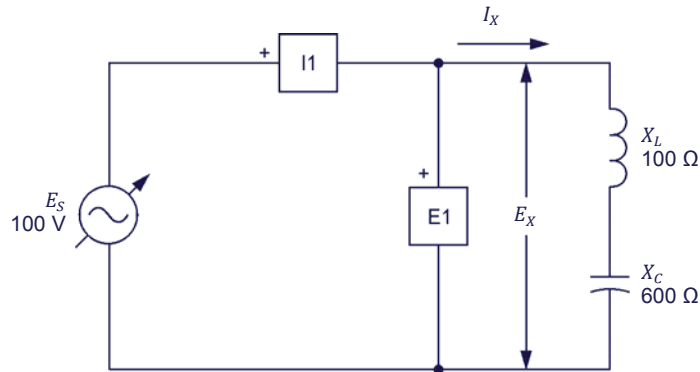

Figure 2-17. Series ac circuit containing an inductor and a capacitor.
16. Make the necessary switch settings on the **Inductive Load** and **Capacitive Load** (or on the **Inductive and Capacitive Loads**) in order to obtain the values of inductive reactance X_L and capacitive reactance X_C indicated in the circuit of Figure 2-17.